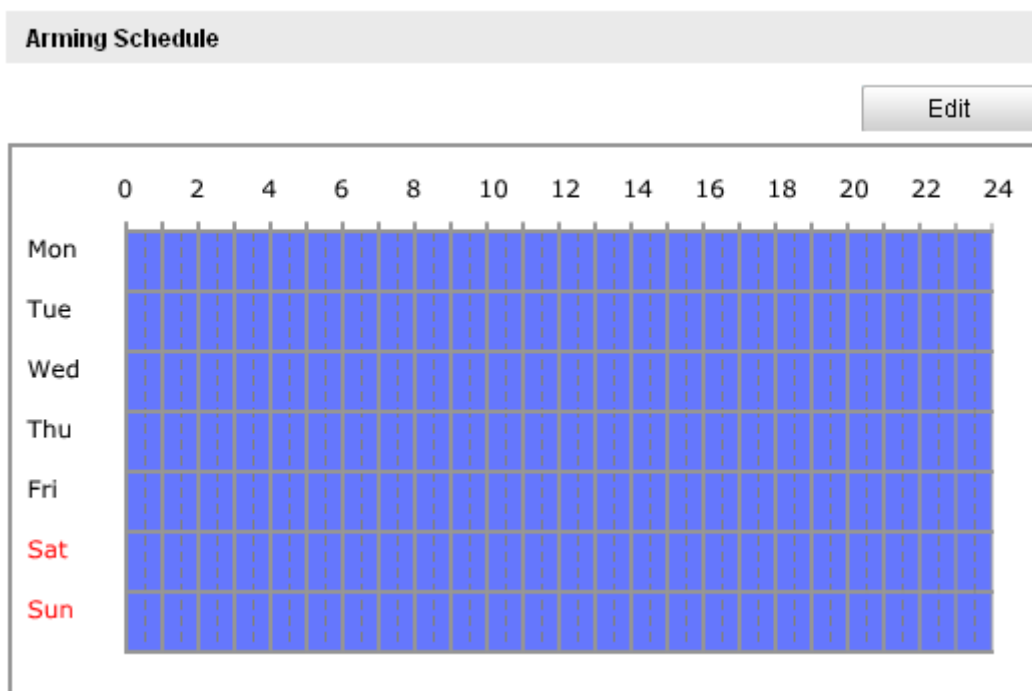

Figure 6-39 Arming Schedule
(1) To edit the arming schedule as shown in Figure 6-40, click in Figure 6-39.